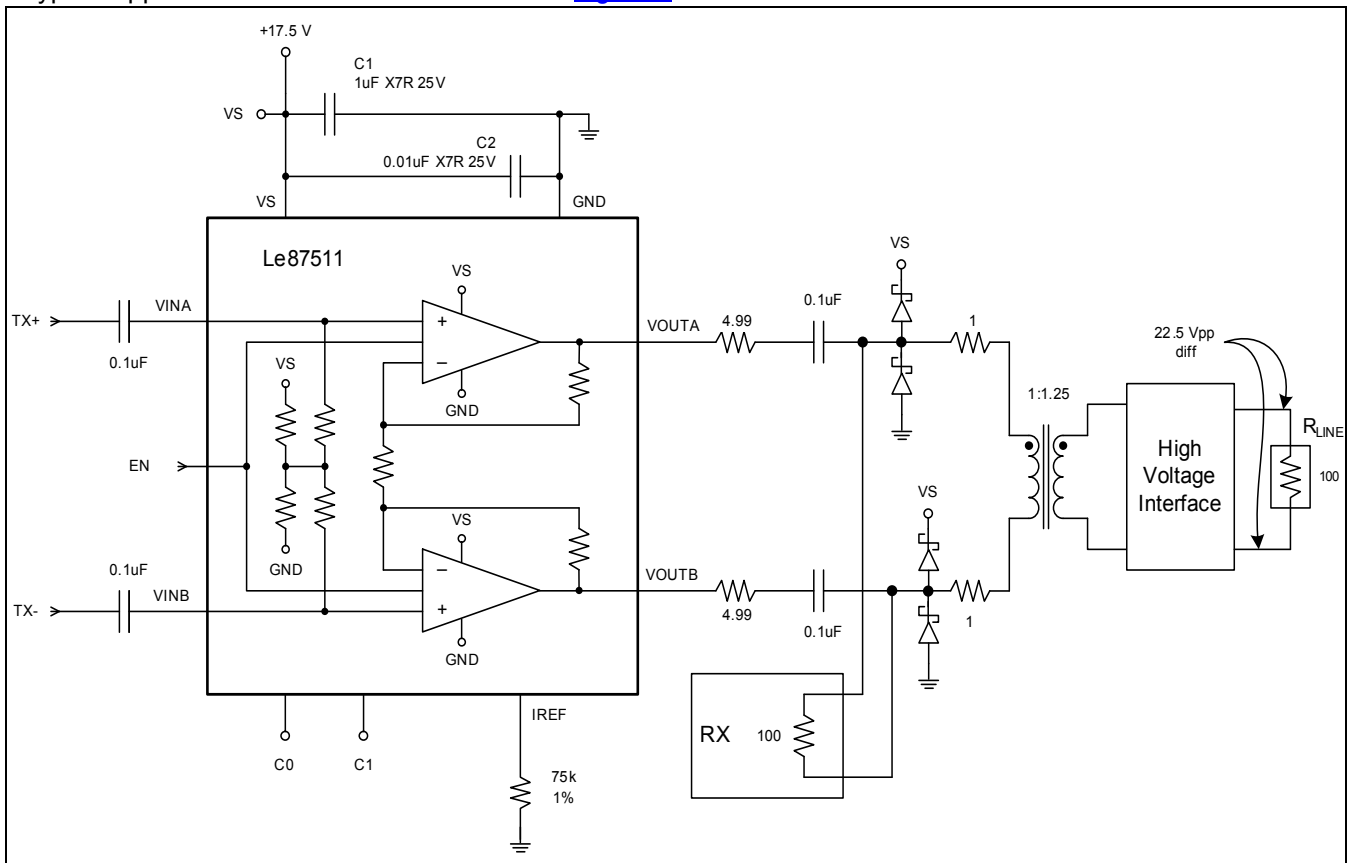

Figure 4 - Typical Application Circuit
3. Tested using the Typical Application Circuit (Figure 4), $V_S \geq 17.5 \text{ V}$.
The Le87511 integrates a high-power line driver amplifier designed for low distortion for signals up to 86 MHz. A typical application interface circuit is shown in Figure 4.
If a DC current path exists between the two outputs, a DC current can flow through the outputs. To avoid DC current flow, the most effective solution is to place DC blocking capacitors in series with the output as shown in Figure 4.
The line driver is designed to operate with various protection components. Figure 4 shows a pair of schottky diodes providing voltage clamping. To maintain stability, the capacitance of these diodes should be less than 30 pF.